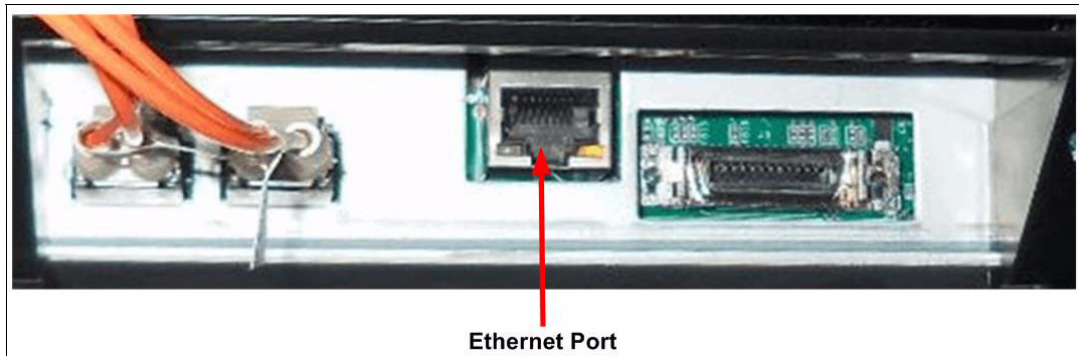

Figure 3-20 TS1150 Ethernet port
The Ethernet port is used in the TS1155 and TS1150 Rack mount configuration, when in a TS3500 tape library configuration the TS3500 tape library management interface (MI) can be used to manage the TS1155 and TS1150 instead. Figure 3-20 on page 177 shows the location of the Ethernet port.
The 3592-E08, 55E and 55F canisters no longer have an RS-232 serial port. An Ethernet service port was added to the drive, which is for service and use by the user. It provides the capability for users to access advanced drive status pages, and for service personnel to access a drive virtual operator panel and perform firmware uploads and download drive memory dumps. It is a single, standard RJ45 connector at the rear of the canister, as shown in Figure 3-20.